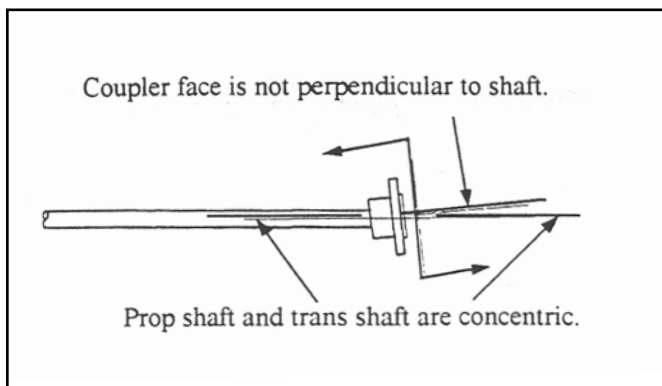

Figure 2. Coupler Perpendicularity
1. The face of the prop shaft coupler and/or transmission flange may not be perpendicular to the center line of its respective shaft (figure 2).